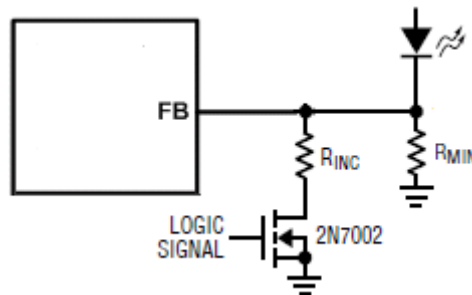

Figure 12. Dimming Control Using a Logic Signal
For applications that need to adjust the LED current in discrete steps, a logic signal can be used as shown in Figure 12. R_{MIN} sets the minimum LED current (when the NMOS is off). R_{INC} sets how much the LED current increases when the NMOS is turned on. The selection of R_{SET} and R_{INC} follows formula (1) and Table 1.